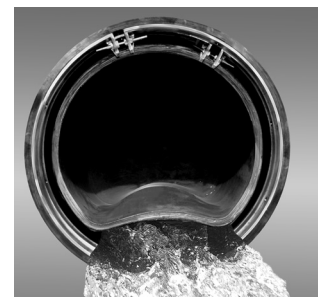

Figure 1 – Clamps shown installed on the same side of valve
**NOTE:** A clamp is installed on each end of the valve to keep the valve's shape during transit and storage. Once the installation orientation is determined the CheckMate® valve will be clamped from either the upstream or downstream side. **For valves with two or three clamps, they can be installed onto the same side of the valve and offset from each other, as illustrated in Figure 1.**